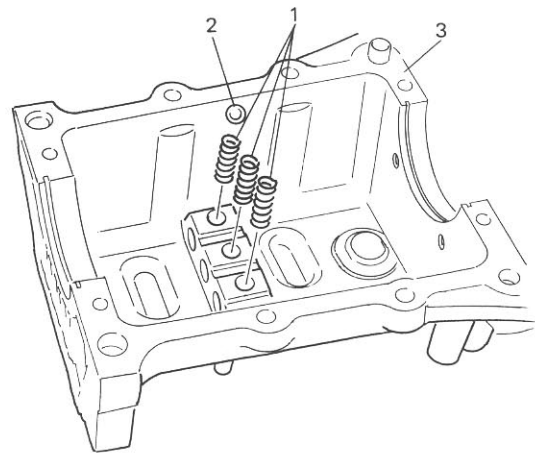

Fig. 13-59
- 1) Install 3 locating springs into 3 holes in upper case. Fit locating ball (① in Fig. 13-59) on top of locating spring in hole.